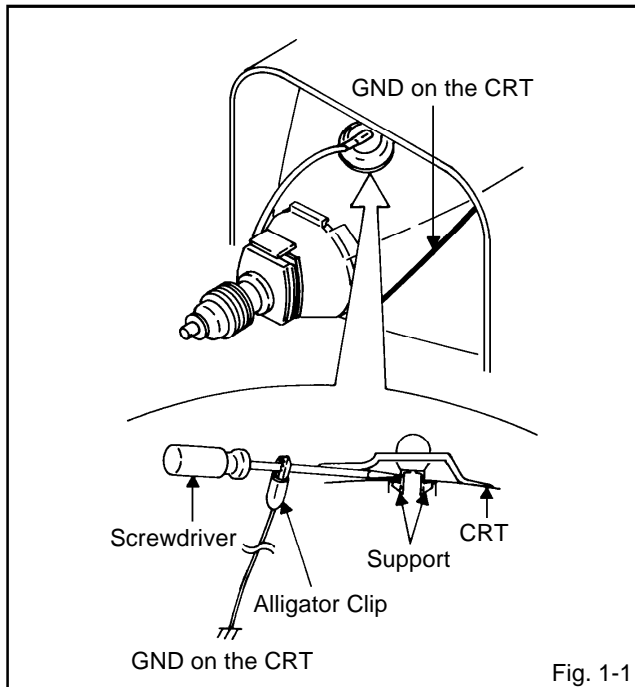

Fig. 1-1
1. Follow the steps as follows to discharge the Anode Cap. (Refer to Fig. 1-1.)
1. In the condition of NO indication on the screen. Press the VOL. DOWN button on the set and the Channel button (**9**) on the remote control for more than 1 second to appear the adjustment mode on the screen as shown in **Fig. 1-1**.